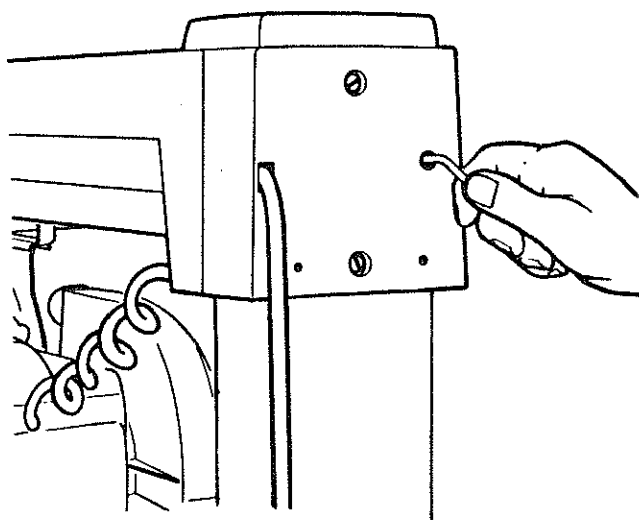

Fig. 129 - Location of Hex Socket Cap Screw
2. With a 3/16 inch hex "L" wrench find the 1/4-20 hex socket cap screw through the hole in the rear of the *arm cover*. To tighten turn the wrench clockwise approximately 1/4 turn. (Figure 129)